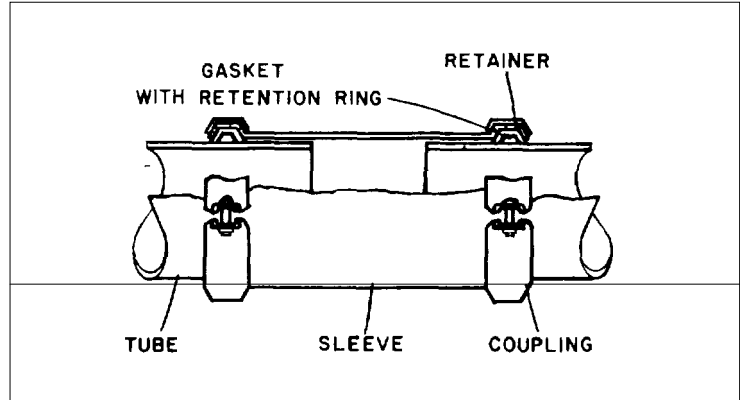

Fig. 12 "Marman Flexmaster Self Restrained"
- (e) Make sure that sleeve overlaps pipe ends (dim. A, Fig. 12) by 1/4" (6.35 mm) minimum on 2 inch and smaller diameter pipe, and by 1/2" (50.8 mm) minimum on larger diameter pipe.
- (f) Assemble both couplings and tighten nuts (dim. B, Fig. 12) until 0-1/4" (0-6.35 mm) gap is obtained between coupling ends.